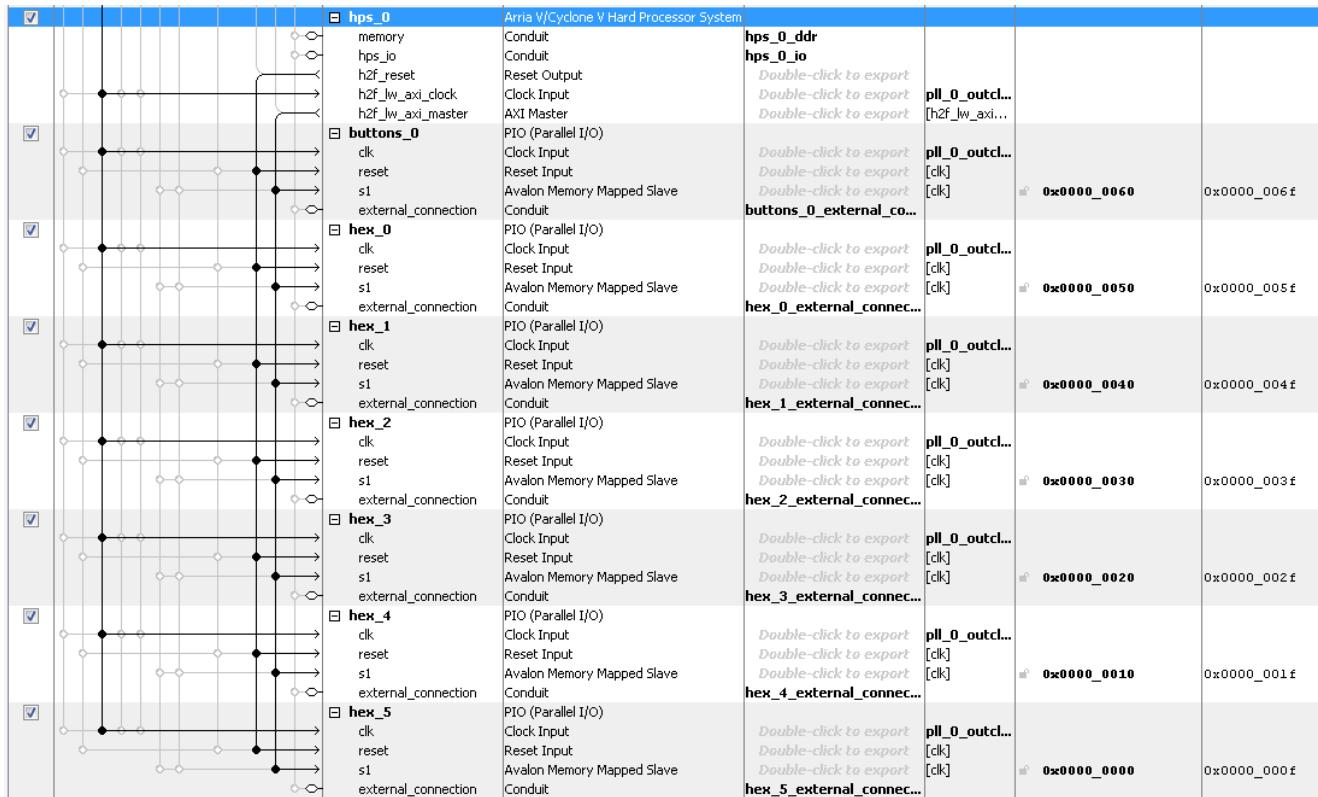

Figure 9-14. Adding Buttons and 7-segment Displays to the Lightweight HPS-to-FPGA Bridge
30. Connect the system as shown in Figure 9-14 below. Notice that we use “hps_0.h2f_reset” as the reset signal for the components connected to the HPS. This is a design choice so we can separately reset FPGA-only peripherals, and FPGA peripherals connected to the HPS.